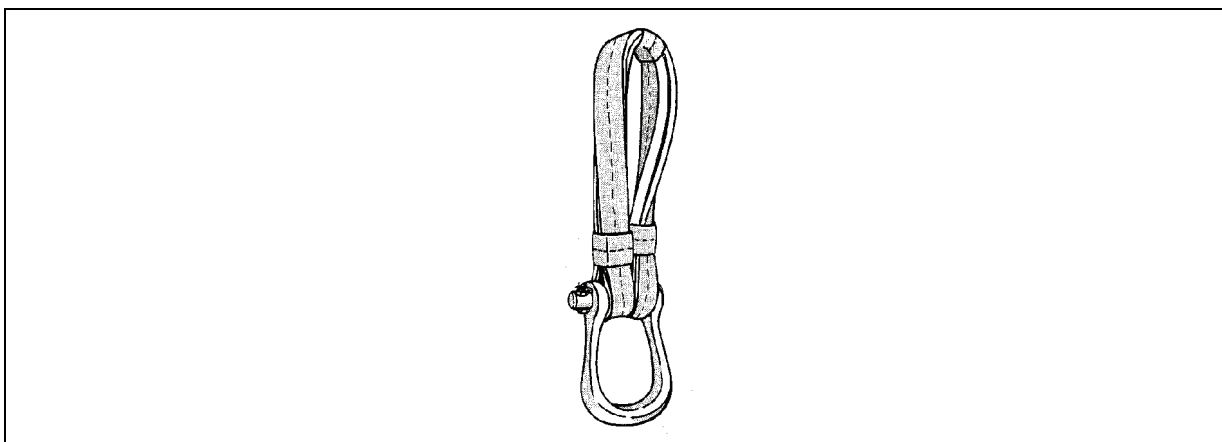

Figure 6-3. Three Foot Sling, Basket-Hitched on an Apex Fitting for a UH-1
- The apex fitting pin is placed directly onto the cargo hook, except for the UH-1. A 3-foot nylon aerial delivery sling or 10-inch nylon donut must be used between the sling and aircraft hook because of the unique shear pin design on the UH-1 hook. Use a basket hitch to place the 3-foot nylon aerial delivery sling on the apex fitting (Figure 6-3).